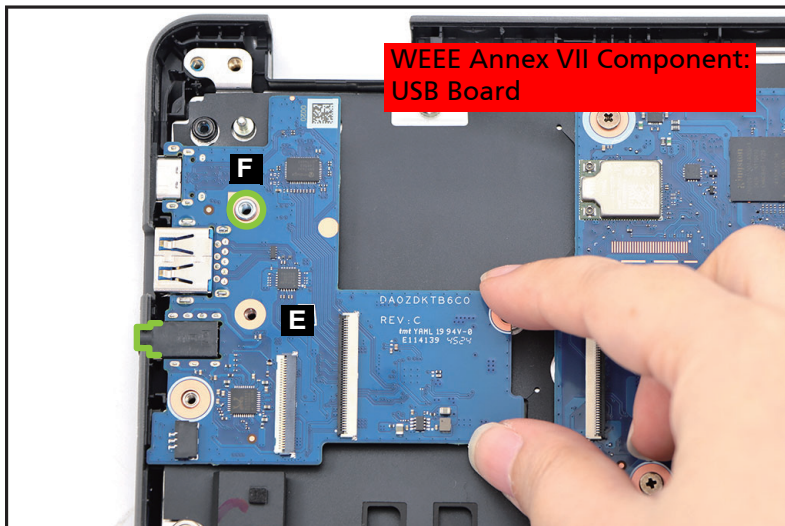

Figure 3-32. USB Board Removal
5. Release the USB board (E) from the I/O port slots and guide pin (F) on the top assembly (Figure 3-32). Then remove the USB board.